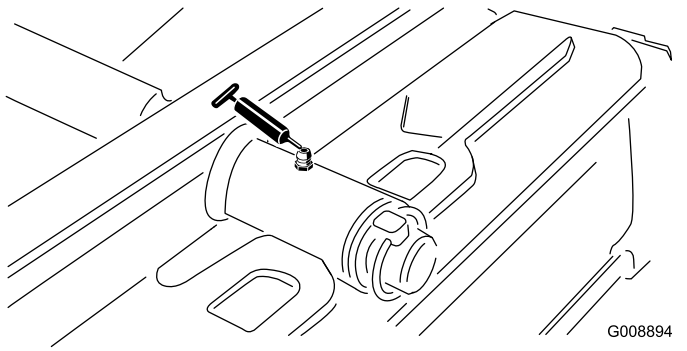

Figure 27
- Rear cutting-unit pivot (Figure 27)